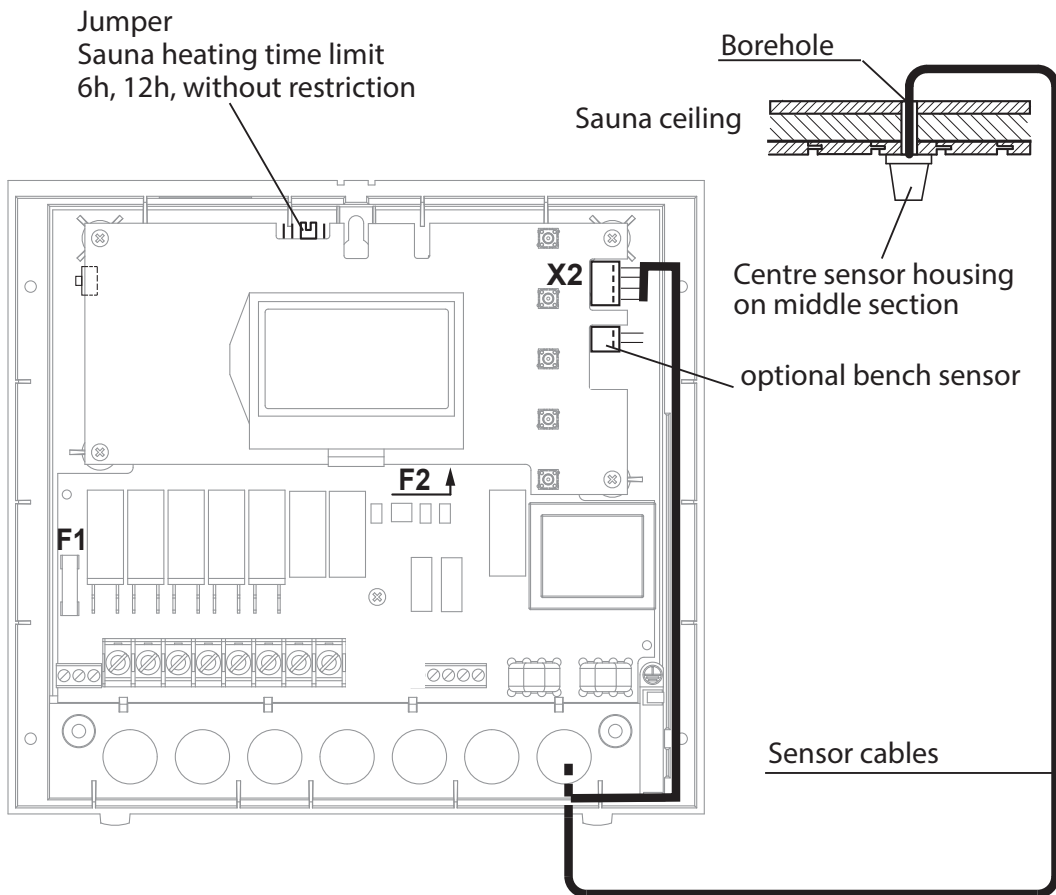

Figure 11
5. Guide the sensor lines to the control unit and feed them into the device through the right-hand cable opening. Install the sensor lines within the control unit as shown in Fig. 11. Connect the sensor lines as shown in Fig. 12. To this end, the plug **X2** is disconnected from the board and then reinserted after the connection.